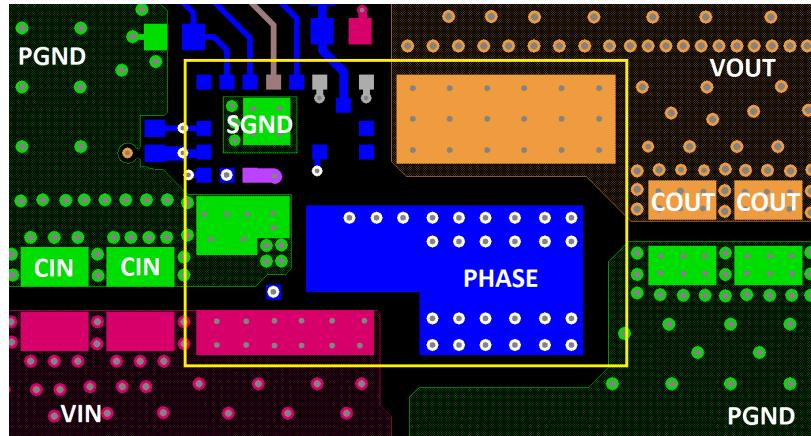

Figure 4. Layout Example - Top Layer
1. Place the input capacitors and high frequency decoupling ceramic capacitors between VIN and PGND, as close to the module as possible. The loop formed by the input capacitor, VIN pad, and PGND must be as small as possible to minimize the high-frequency noise. Place the output capacitors close to the load. Use short, wide copper planes to connect the output capacitors to the load to avoid any parasitic inductances and resistances. A layout example is shown in Figures 4 and 5 on page 7.